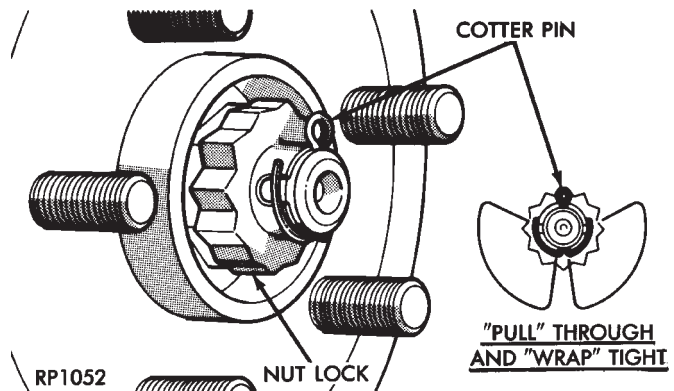

Fig. 18 Install Spring Washer, Nut Lock, & Cotter Pin
(12) Install the spring washer, hub nut lock, and new cotter pin. Wrap the cotter pin prongs tightly around the hub nut lock (Fig. 18).